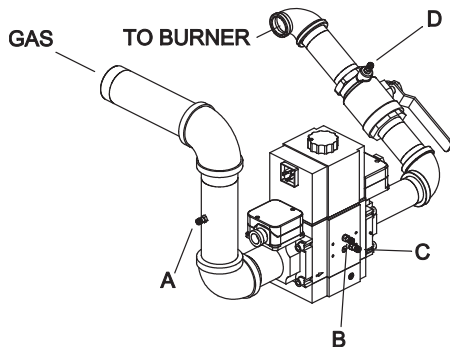

Fig. 45: Gas Pressure Measurement Locations
2. Attach (1) 12" scale manometer to an upstream bleedle valve on the gas supply pipe to the heater (Measure point "A" in Fig. 45).
1. Check manifold gas pressure at the gas valve outlet pressure tap (connection "D" in Fig. 45). This pressure should read per the values in Table S for natural and propane gas.